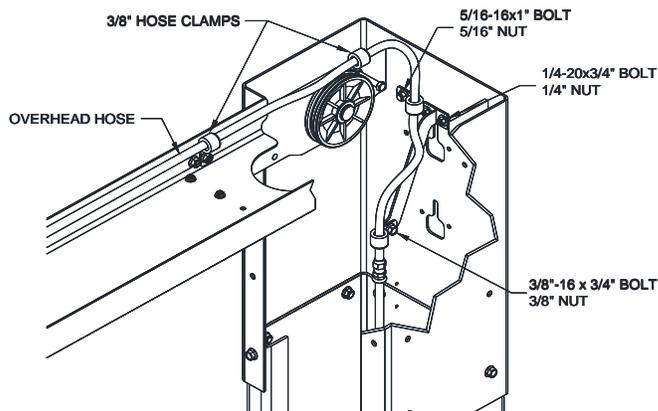

Fig. 13a – Hose Routing, Idler Side Column Ext.
- 28) Install the hose support tabs to both idler and power columns using 1/4"-20NC x 3/4" lg. hex flange bolt and nut, see **Fig. 13a** and **Fig. 13b**.
- 29) Route the idler side hose through the idler side column as shown in **Fig. 13a**, taking care to avoid the synchronizing cables and hydraulic cylinder path. Uncoil the overhead hose and attach it to the idler side hose. Remove slack and tighten all 3 clamps. Route hose across overhead avoiding the synchronizing cables and down through the power side column extension as seen in **Fig. 13b**. Do Not Tighten clamps at this time.